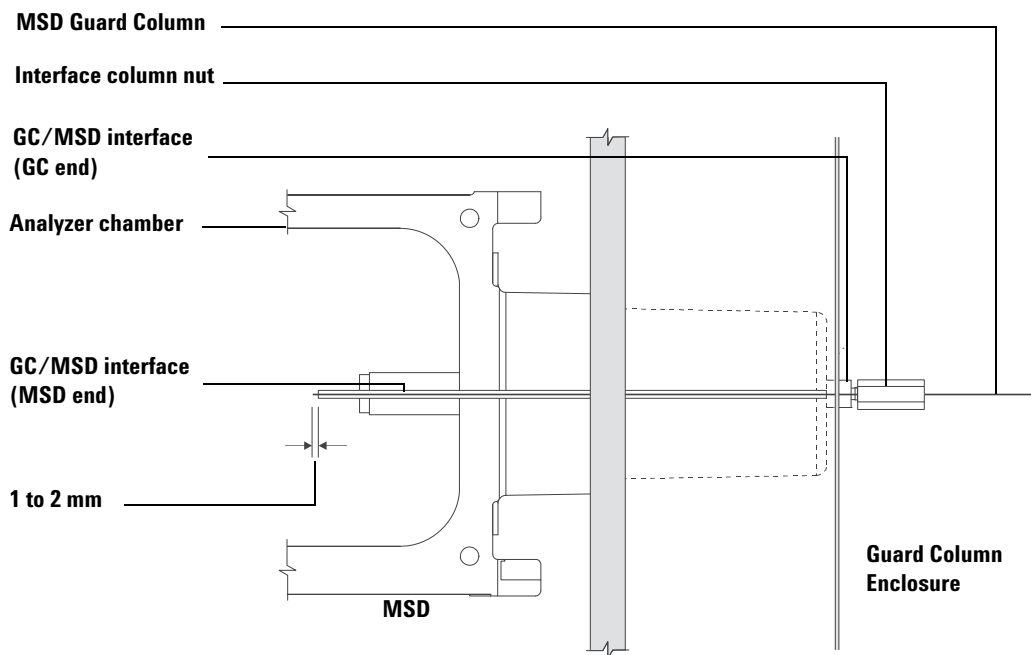

Figure 8 Installing a guard column in the GC/MSD interface
- 4 Slide the column into the GC/MSD interface (Figure 8) until you can pull it out through the analyzer chamber.